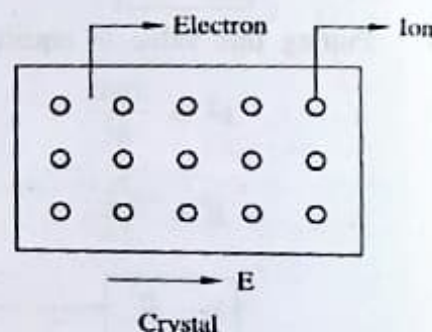

FIG. 1.22 : ELECTRON UNDER THE INFLUENCE OF AN ELECTRIC FIELD
- Let an external field E is applied to the electron when it is in a crystal shown in Fig. 1.22.